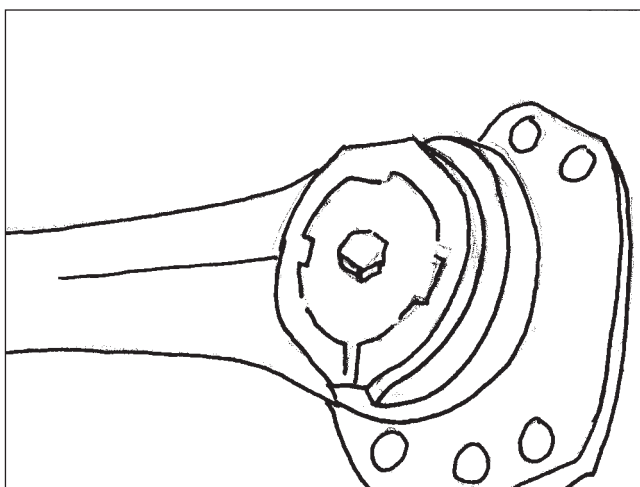

Figure 50
5. Coat the face of the retainer with grease (Figure 50).